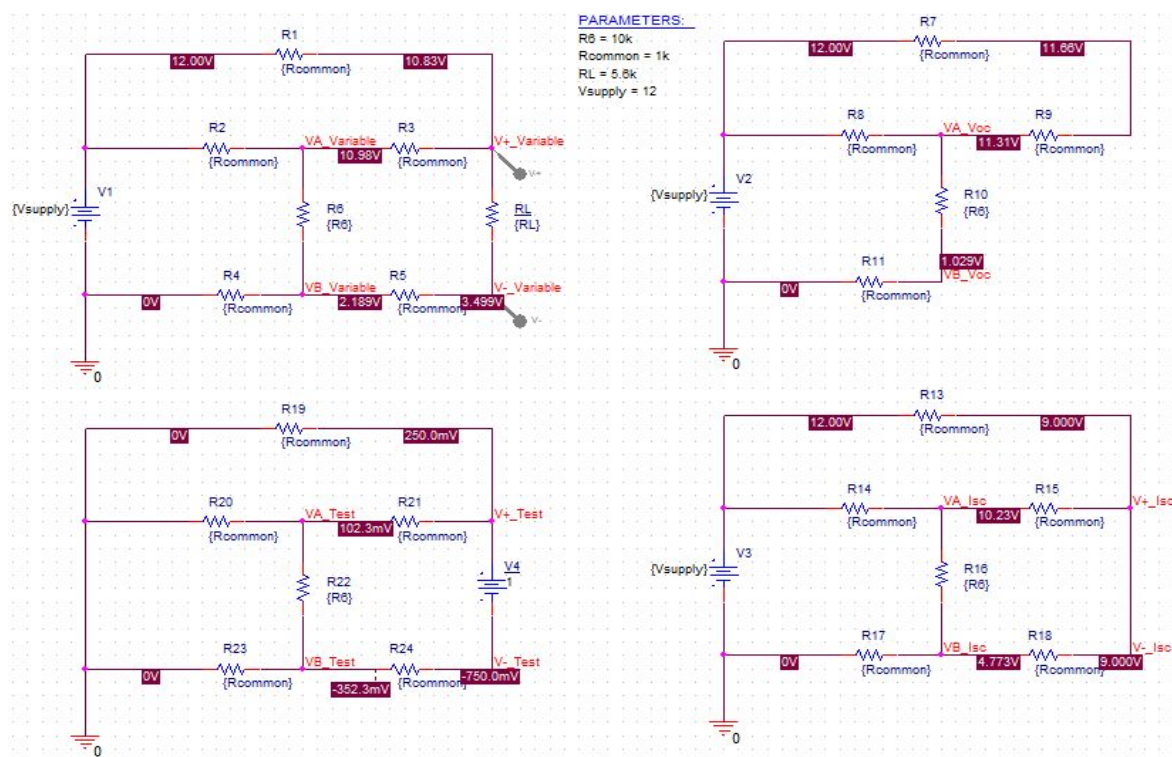

Figure 1.2.1: Screen shot of the PSPICE schematic with voltage markers.
Since the prelab called for having all 4 circuits on the same page, you may place two copies of the schematic here as listed in Figs. 1.2.1 and 1.2.2
- Refer to the Fig. 1.2.1 with a screen shot of the schematic in PSPICE with voltage markers for the V_{oc} test. As you likely have already placed this figure in your theory section, there is no need to do so a second time.